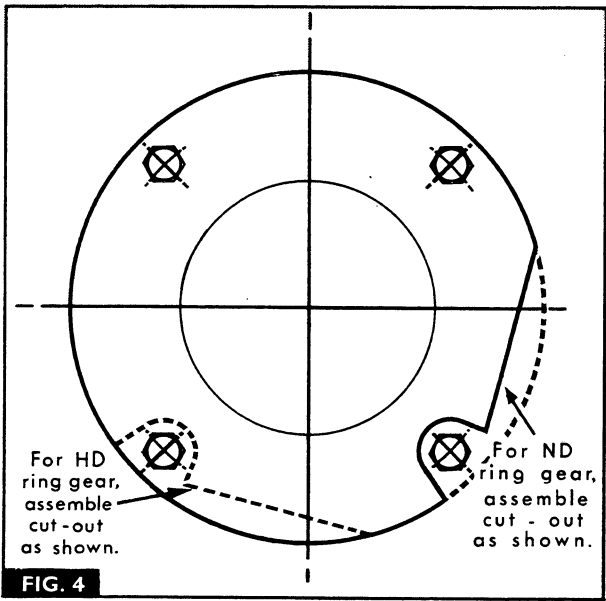

FIG. 4
1. Refit the backplate (42) and the shims (41) to the dowels (40) on the ring gear (43), then locate the dowels in the holes in the transmission case. Fit the thrust washers (44 and 46) to the planetary pinion carrier (45) and locate the carrier in the ring gear. Refit the cover plate (47), as shown in Fig 4. Fit the four bolts (49), and tighten them progressively and evenly to a torque of 4,9 kg-m (35 lb-ft).
2. Refit the coupler (50) and HIGH/LOW shifter fork (7), then refit the locking peg (8) and locking wire.